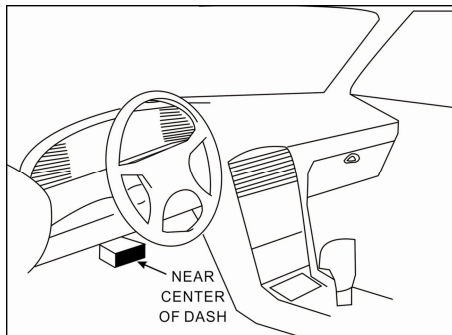

Figure 2-2
2. Locate vehicle's DLC socket: It provides standard 16 pins and is generally located on driver's side, about 12 inches away from the center of dashboard. See Figure 2-2. If DLC is not equipped under dashboard, a label indicating its position will be given. In case no DLC is found, please refer to Automobile Repair Manual.